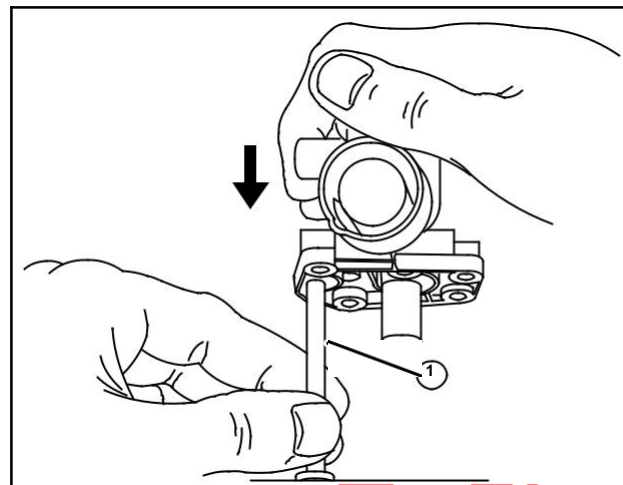

Fig. 7
Install Fuel Pick-Up Tube (Fig. 7)
Insert pick-up tube (1) in carburetor body. Place screen squarely on a hard surface. Push firmly on carburetor with palm of hand. Tube may require considerable force to snap into place, Fig. 7.